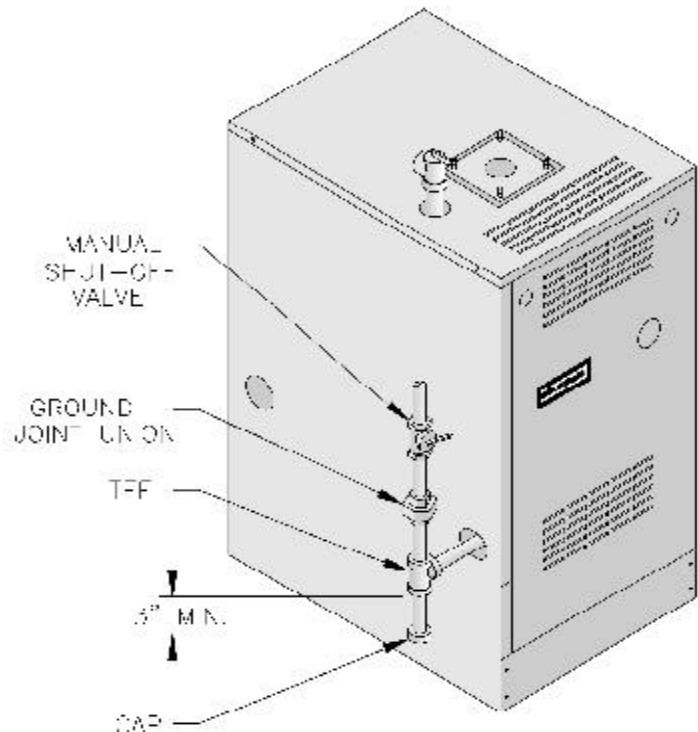

Figure 6: Recommended Gas Piping
3. Install sediment trap, ground-joint union and manual shut-off valve upstream of boiler gas control valve and outside jacket. See Figure 6.